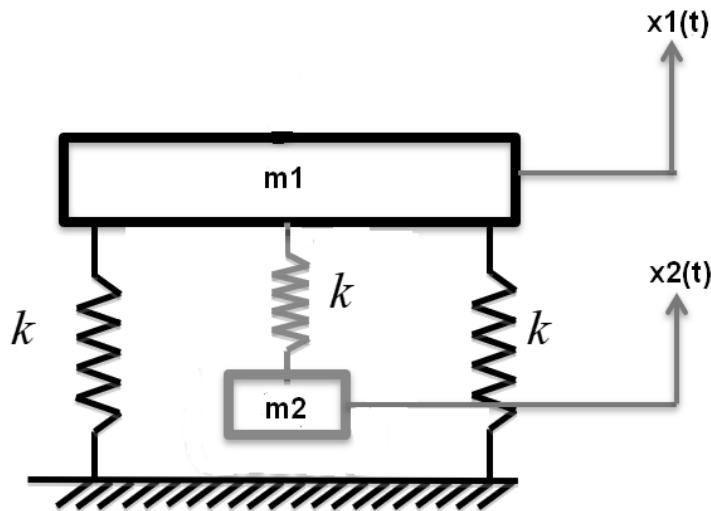

Figure Q3
3. Consider a two-degree of freedom system shown in **Figure Q3**, given mass, $m_1 = m_2 = 5 \text{ kg}$ and the spring stiffness, $k = 20 \text{ N/m}$, you must: